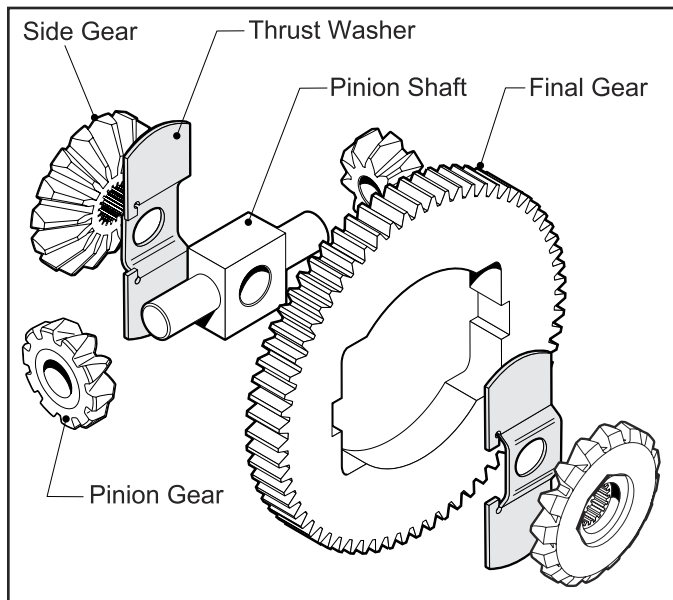

Fig. 38, Differential Gear Assembly
1. Install the (2) Differential Pinion Gears to Differential Pinion Shaft. (Fig. 38)
2. Install the Differential Pinion Assembly (Pinion Shaft and (2) Pinion Gears) within the Final Gear. (Fig. 38)
3. Position the (2) Thrust Washers against Pinion Shaft body and Final Gear. (Fig. 38)
4. Position the (2) Differential Side Gears next to Thrust Washers. (Fig. 38)